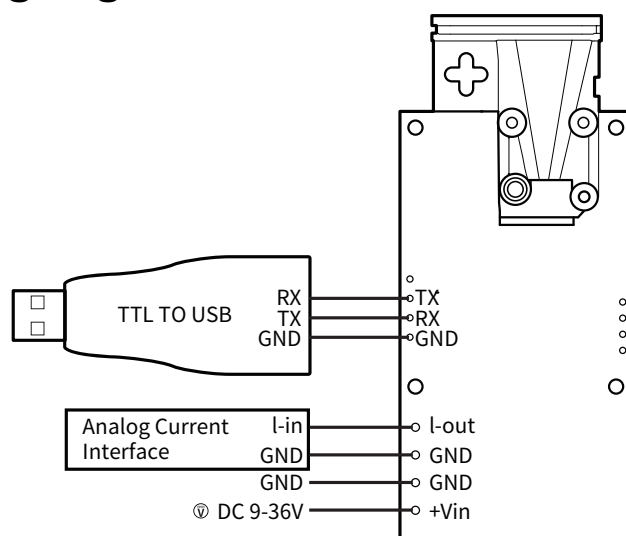

Figure 1. L3 wiring diagram
1. Following Figure 1, connect the sensor's RX, TX, and GND to the TTL-to-USB converter's RX, TX, and GND respectively.